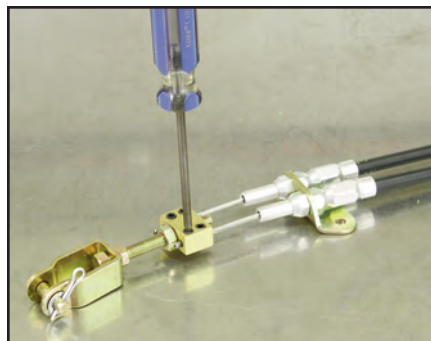
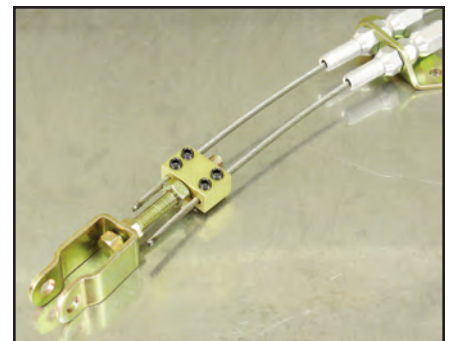

Figure 8
Figure 9
- Loosen all four setscrews on the top of the Cable Block assembly enough to allow the inner cable to slide through, Figure 8. Slide both inner cables through cable block and snug down setscrews, Figure 9.